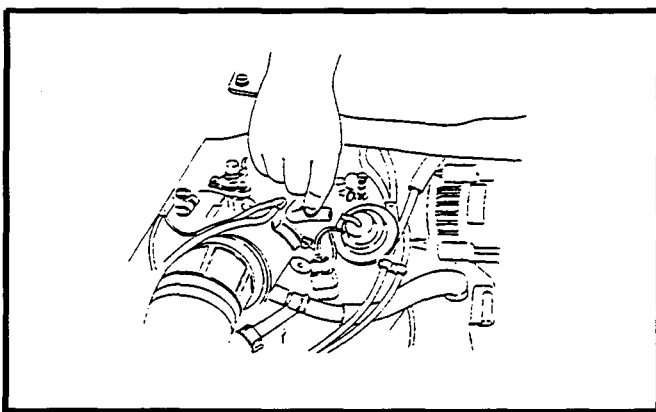

Figure 30.
1. With the engine warmed up and the choke plate fully open, disconnect the vacuum hose from the throttle positioner. See Figure 30.